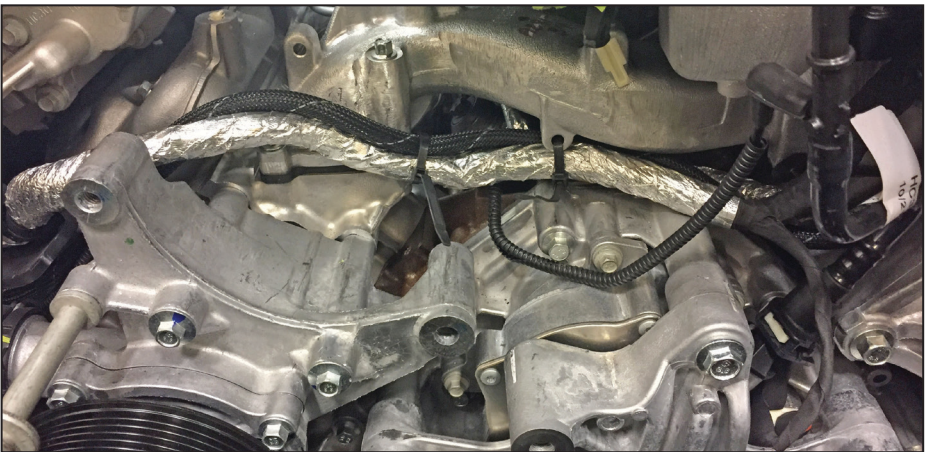

Figure 6 — Preparing for main bracket installation
- Using cable ties, secure the harness to the cable tray mounting bosses (Figure 6).